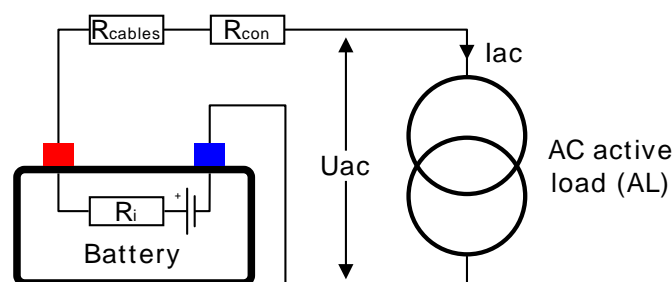

Figure 4: Internal resistance measurement
The battery internal resistance (R_i) is measured by draining a defined AC current through an active load (AL) from the battery and measuring the AC voltage drop across the load terminals. The principle is represented in Figure 4.